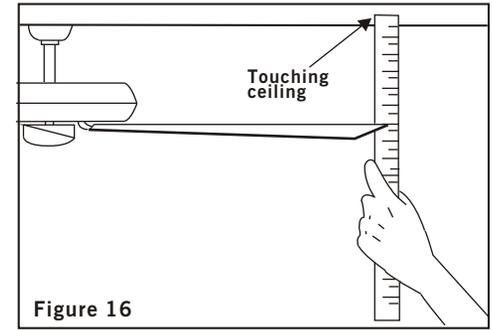

Figure 16
2. Most fan wobbling problems are caused when blade levels are unequal. Check this level by selecting a point on the ceiling above the tip of one of the blades. Measure this distance.(Fig. 16) Rotate the fan until the next blade is positioned for measurement. Repeat for each blade. The distance deviation should be equal within 1/8".